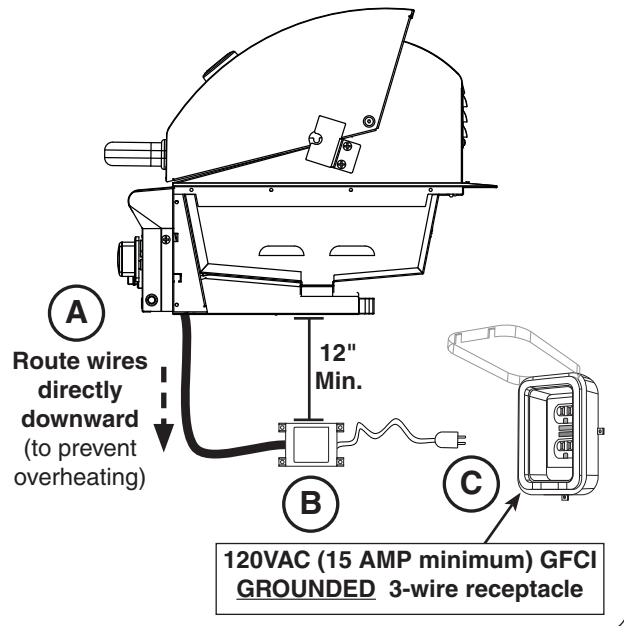

Fig. 23-1 Electrical installation
1. Route the wire harness extension below the control panel and directly downward. This will prevent overheating. **DO NOT** route the wire extension below the grill. See Fig. 23-1, A.
2. Mount the power supply to the inside of the enclosure using appropriate hardware for your enclosure. It **MUST** be located at least 12 inches below the bottom of the unit. See Fig. 23-1, B.
3. Connect the cord coming from the power supply to a **120VAC (15 AMP minimum) GFCI GROUNDED 3-wire receptacle** (see Fig. 23-1, C). The GFCI receptacle must be a **WEATHER-PROOF IN-USE COVERED RECEPTACLE**.